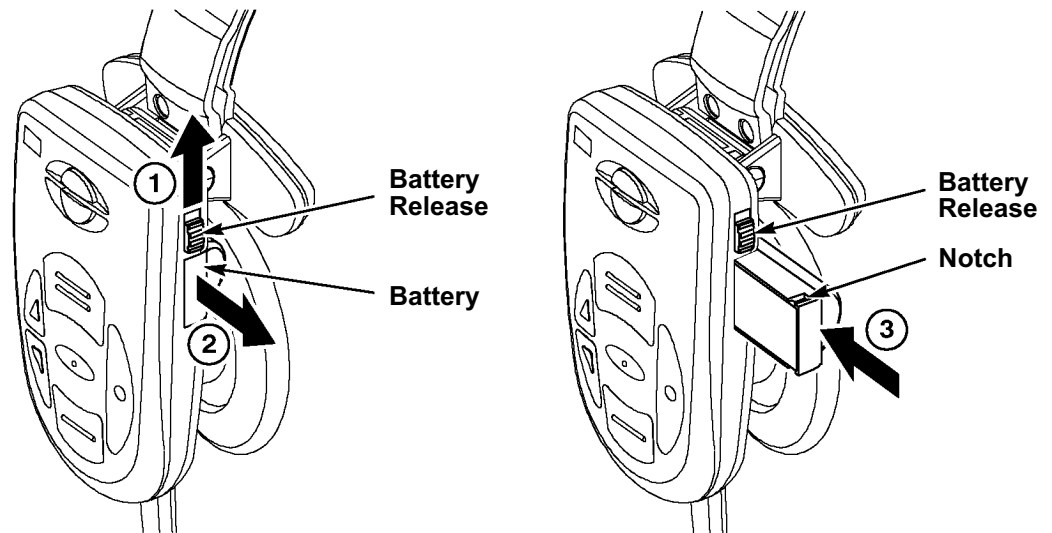

Figure 15.
1. Push and hold the battery release. See Figure 15.
3. Insert a **fully charged battery** in the housing with the notch facing the battery release. Make sure the battery is fully inserted (battery release clicks). See Figure 15.